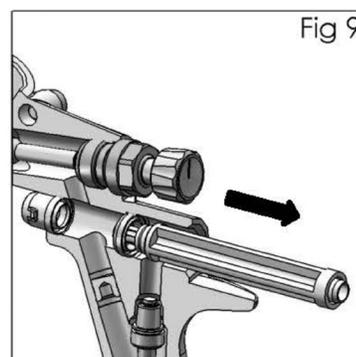

Fig 9
7. Using service tool (44), engage groove behind the valve seat (19) (See Fig 9).